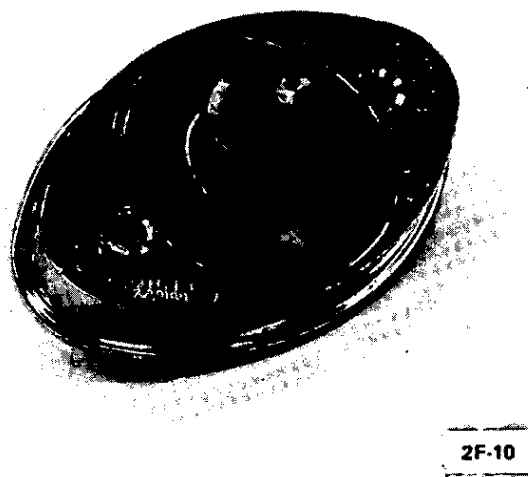

Figure 2F-10 Cable Crank
2. Check pinion on cable crank (see Figure 2F-10) for wear or damage. If replacement of pinion is required, also replace both cables.